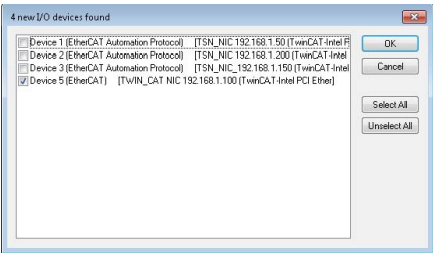

Figure 15. NIC Selection
7. Click **OK** and the NIC selection list shown in Figure 15 (or a similar message, depending on the NIC used) appears. Choose the desired NIC.